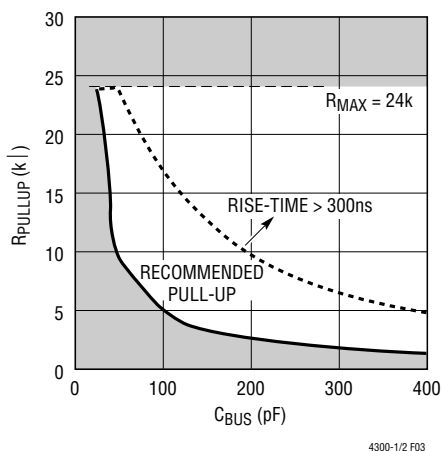

Figure 3. Bus Requirements for 3.3V Systems
**SCLOUT (Pin 2):** Serial Clock Output. Connect this pin to the SCL bus on the card. See Figures 3 and 4 for bus pull-up resistance and capacitance requirements.
**SCLIN (Pin 3):** Serial Clock Input. Connect this pin to the SCL bus on the backplane. See Figures 3 and 4 for bus pull-up resistance and capacitance requirements.
**SDAIN (Pin 6):** Serial Data Input. Connect this pin to the SDA bus on the backplane. See Figures 3 and 4 for bus pull-up resistance and capacitance requirements.
**SDAOUT (Pin 7):** Serial Data Output. Connect this pin to the SDA bus on the card. See Figures 3 and 4 for bus pull-up resistance and capacitance requirements.
In addition, regardless of the bus capacitance, always choose  $R \leq 16\text{k}$  for  $V_{CC} = 5.5\text{V}$  maximum,  $R \leq 24\text{k}$  for  $V_{CC} = 3.6\text{V}$  maximum. The start-up circuitry requires logic high voltages on SDAOUT and SCLOUT to connect the backplane to the card, and these pull-up values are needed to overcome the precharge voltage. See the curves in Figures 3 and 4 for guidance in resistor pull-up selection.
The LTC4300 I/O connection circuitry requires a minimum capacitance loading on the SDA and SCL pins in order to function properly. The value of this capacitance is a function of  $V_{CC}$  and the bus pull-up resistance. Estimate the bus capacitance on both the backplane and the card data and clock busses, and refer to Figures 3 and 4 to choose appropriate pull-up resistor values. Note from the
NOTE: APPLICATION ASSUMES BUS CAPACITANCES WITHIN "PROPER OPERATION" REGION OF FIGURES 3 AND 4
NOTE: APPLICATION ASSUMES BUS CAPACITANCES WITHIN “PROPER OPERATION” REGION OF FIGURES 3 AND 4